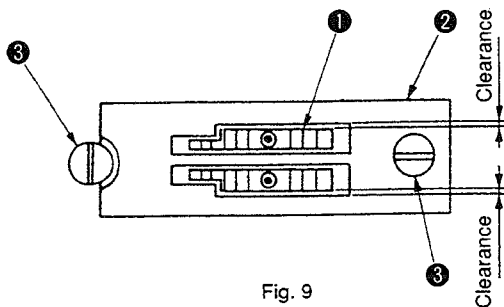
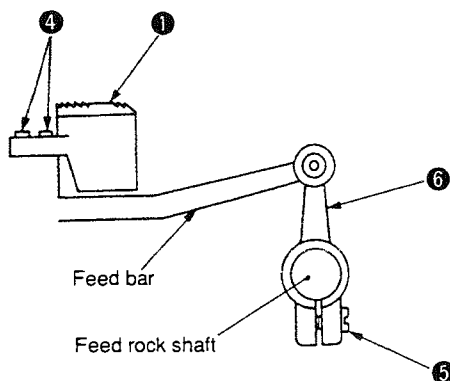

Fig. 9
Fig. 11
1. Attach feed dog ① to the bed using screws ④. Attach throat plate ② to the bed using screws ③.
2. Loosen clamping screw ⑤ in the feed rocker in Fig. 11. Move feed rocker ⑥ in the axial direction to adjust so that respective feed dogs ① teeth are equidistantly spaced in feed dog slots in the throat plate ② as illustrated in Fig. 9. After the adjustment, tighten screw ⑤.
3. If the position of the feed dog is not properly adjusted by the procedure described above, suppose that feed dog ① has been attached with inclined. So, loosen screws ④, and adjust the inclination angle of the feed dog ① to "0." Then, tighten screws ④ and perform the aforementioned step 2).